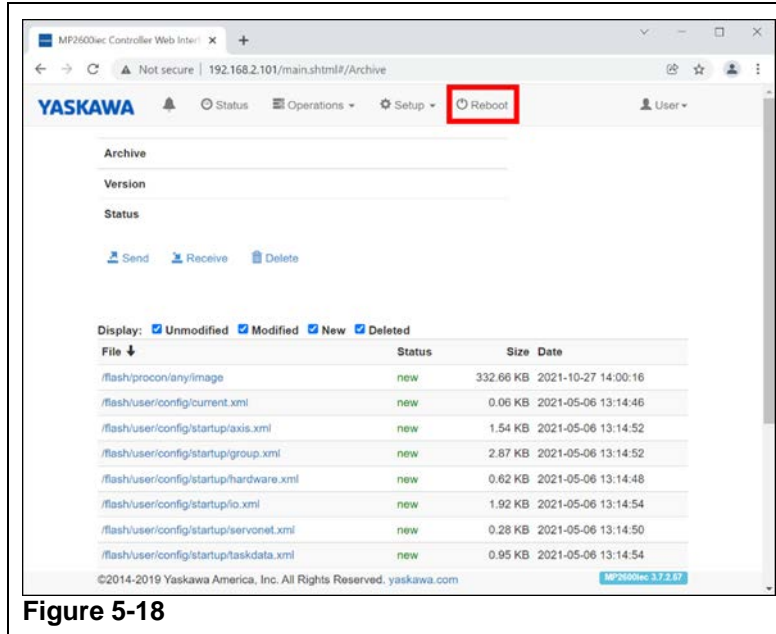

Figure 5-18
- vii. Once the tan colored banner “Installing Archive...” disappears, press the ‘Reboot’ button. (Refer to Figure 5-18)